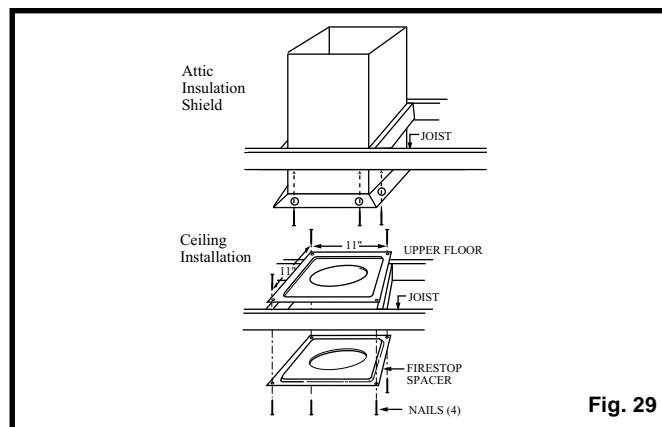

Fig. 29
6. Place firestop(s) #7DVFS or Attic Insulation Shield #7DVAIS into position and secure (Fig. 29).
Fig. 29 If there is a room above ceiling level, firestop spacer must be installed on both the bottom and the top side of the ceiling joists. If an attic is above ceiling level a 7DVAIS (Attic Insulation Shield) must be installed. The enlarged ends of the vent section always face downward (Fig. 30).